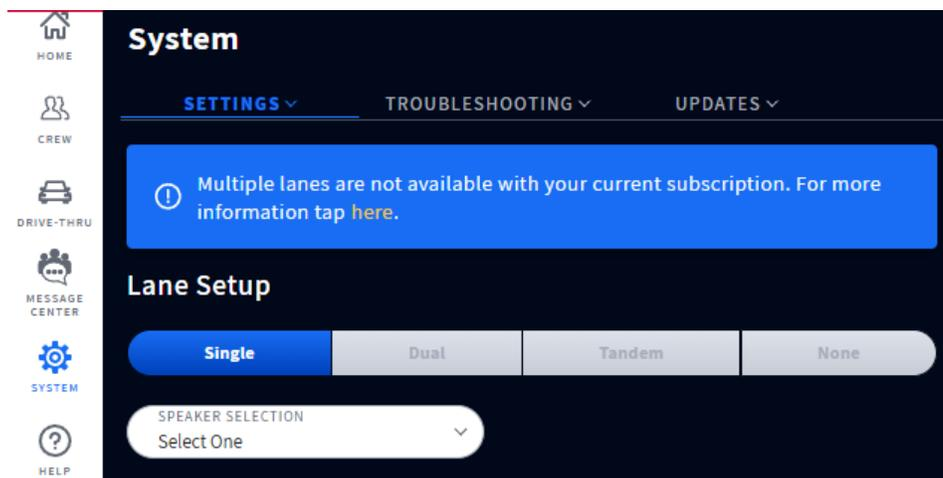

Fig. 1.5
**Grayed-out or unavailable features:** Depending on your tier service, some features may not be available. When you tap/click on an unavailable feature, a dialog box like the one in Fig. 1.5 will appear. In this example, the service only covers a Single Lane. If your store expands to include another lane, you can request a service upgrade to enable the Dual Lane configuration. Follow the prompt in the dialog box to upgrade. System tiers are also covered in the Help chapter of this guide (see “System Tiers” on page 40).